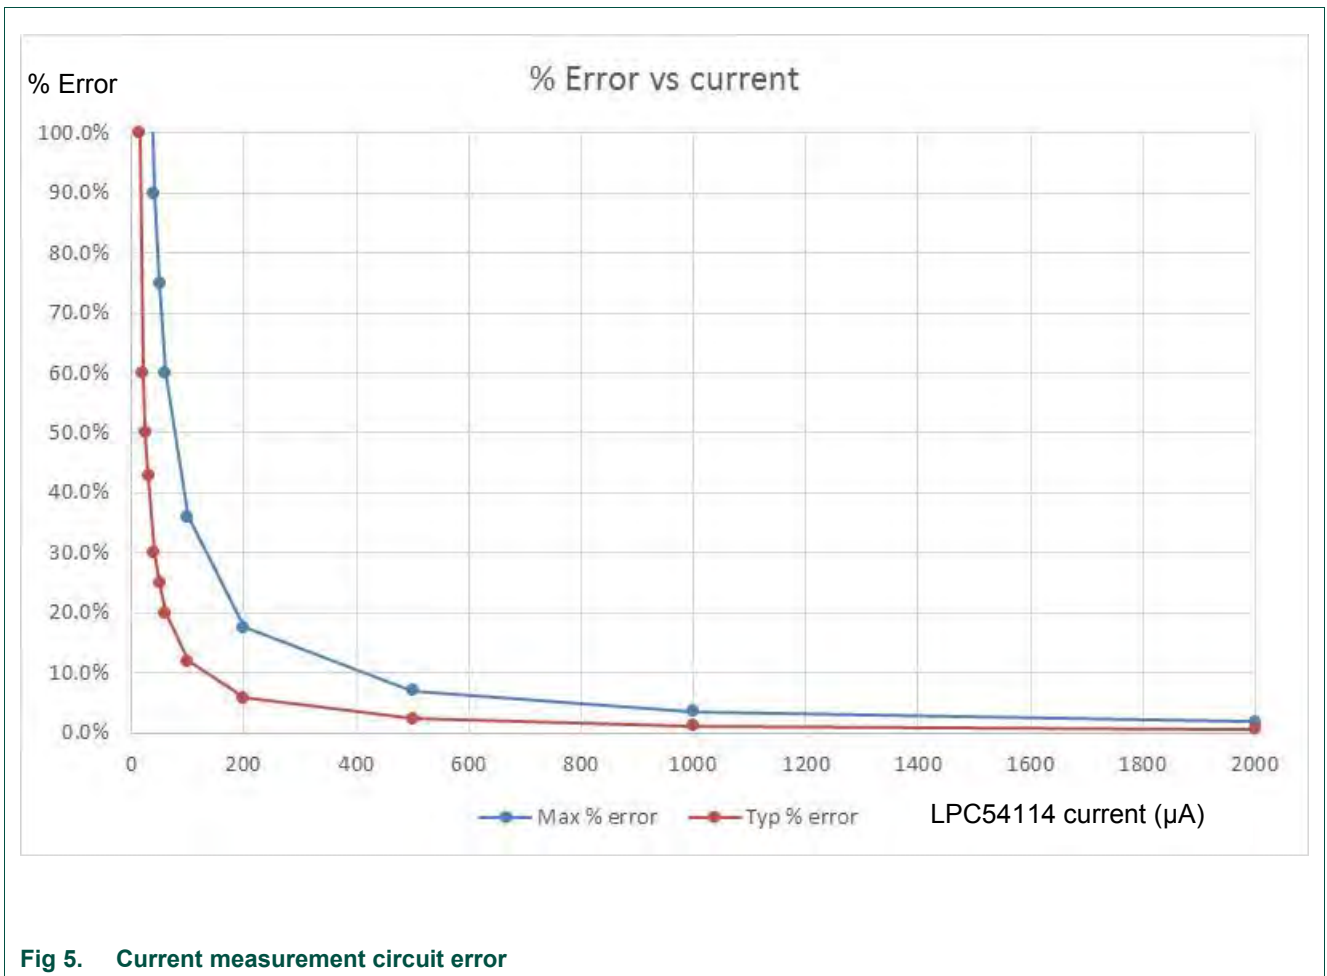

Fig 5. Current measurement circuit error
The LPCXpresso54114 board has an on-board current measurement circuit consisting of a MAX9634T (U5) current monitor chip and a 12-bit ADC (ADC122S021, U11) with a 12-bit sample at 50k to 200ksps. The on-board MAX9634T current monitor measures the voltage across the LPC54114 VDD vsense resistors; either 8.24Ω or 4.12Ω if JP3 is installed. The MAX9634 multiplies the sense voltage by 25 to provide a voltage range suitable for the ADC to measure. A 2-input analog mux selects between the LPC54114 current monitor and the output on a MAX9634T current monitor chip on an expansion board (with compatible current measurement circuit on-board). The current measurement circuit is controlled by the Link2 processor and is not user programmable. Power measurement utilities to use this feature are available in the LPCXpresso IDE installation. Due to input offset voltage variations in the MAX9634, the current measurement circuit is not recommended for measuring current below 150uA. See Fig 5 as a guideline for measurement error versus measured current.
- Fig 5. Current measurement circuit error 13